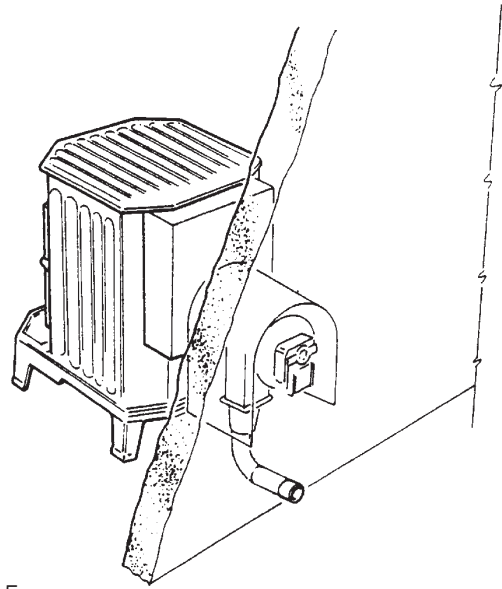

FIG. 5
- A Rear flue outlet directly behind appliance - *supplied as standard* Fig. 5.